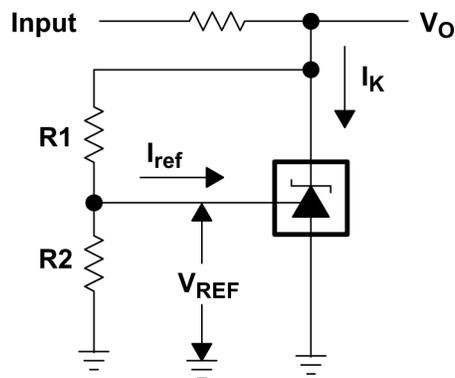

Figure 6-2. Test Circuit for  $v_{KA} > V_{REF}$ ,  $V_O = V_{KA} = V_{REF} \times (1 + R1/R2) + I_{ref} \times R1$
(3) The dynamic impedance is defined as  $|z_{ka}| = \frac{\Delta V_{KA}}{\Delta I_K}$ . When the device is operating with two external resistors (see Figure 6-2), the
- (3) Full temperature ranges are –40°C to 125°C for TLV431Q, –40°C to 85°C for TLV431I, and 0°C to 70°C for TLV431C.
- (4) dynamic impedance is defined as  $|z_{ka}| = \frac{\Delta V_{KA}}{\Delta I_K}$ . When the device is operating with two external resistors (see Figure 6-2), the total